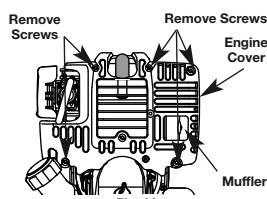

Fig. 33
- Remove the five (5) screws on back of the engine cover with a Flat-head or T-20 Torx screwdriver (Fig. 33).
- Remove the engine cover (Fig. 33 & 34).